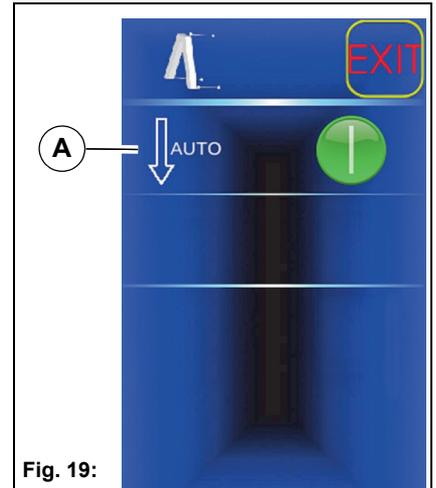

Fig. 19:
**Front tool carrier menu Fig. 19****A** Lower the front tool carrier with Hako button